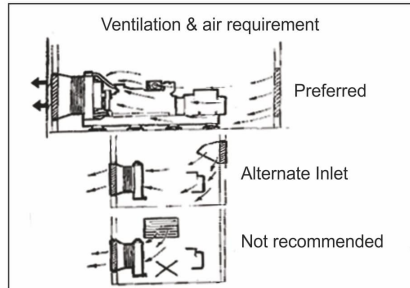

Figure 4.2
- Cross ventilation, free clean and fresh air flow is a must for satisfactory operation of DG set. Air should pass through from alternator end to engine. (figure 4-2)